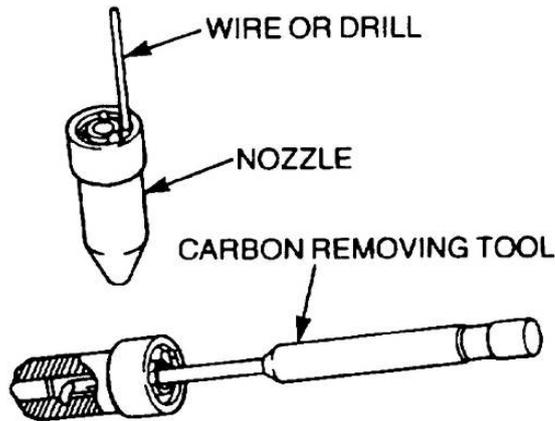

Figure 141 Cleaning the Nozzle
- b. Using a suitable diameter wire or drill, clean the fuel feed passages in the nozzle (Figure 141). Using an injector cleaning kit, remove the carbon from the recess in the nozzle.